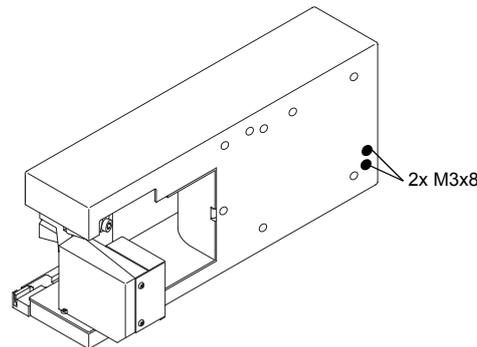

Figure 6-162 Y-motor fixing screws
- 4 On the exterior of the PosID 2, unscrew fixing screws (Figure 6-162) and remove Y-motor assembly.